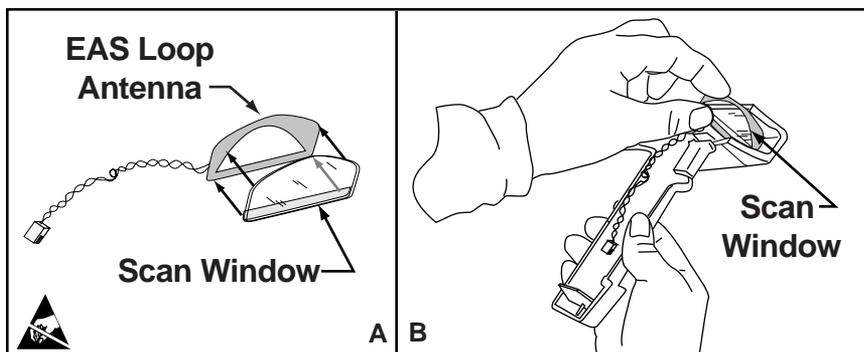

Figure 9. Installing the Scan Window with EAS Loop Antenna
1. Place the new Scan Window and the EAS Loop Antenna together as shown in Figure 9 A.
2. While holding the Scan Window and the Antenna together, slide them simultaneously into the window slot in the Left Enclosure as shown in Figure 9 B.
3. Locate the Loop Antenna wires along the left side of the handle as shown in Figure 9 B, above.